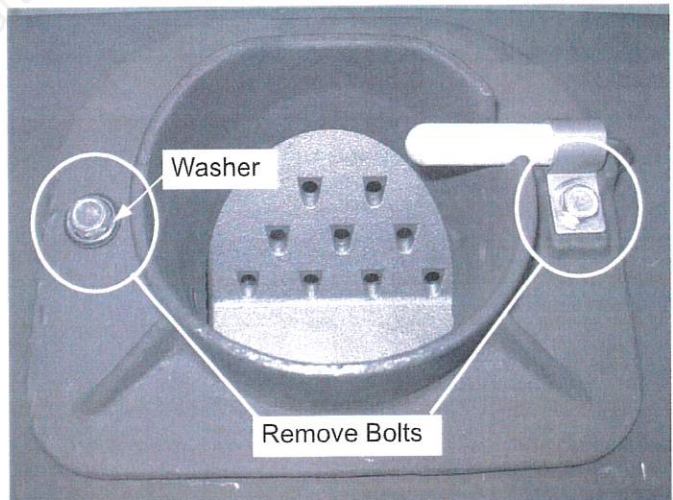

Figure 4
5. Using a 7/16" socket wrench, remove the bolts (**Figure 4**).
**NOTE:** The washer goes on the left hand side of the fire pot - opposite of the thermocouple bracket (Figure 4 on page 2).